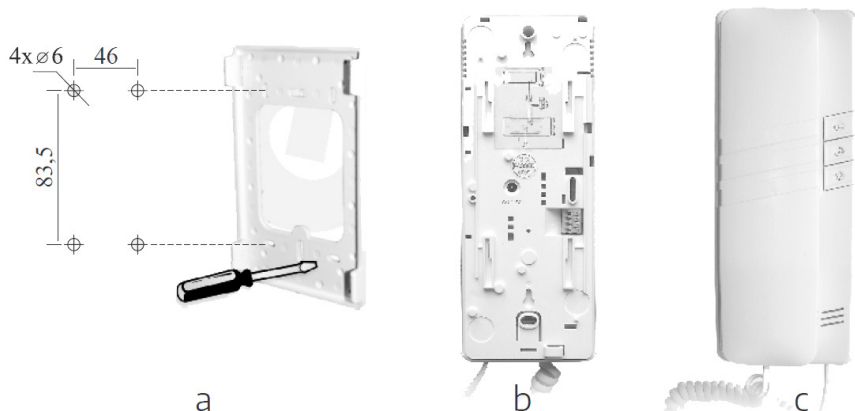

fig. 8.
1. With 2 holes in the Mounting Bracket, uncheck on the wall the places for mounting pins, then in the marked places, drill 2x mounting holes and place there 2 fixing pins - use 2 mounting screws to fix the Mounting Bracket on the mounting box (fig. 8, item a), in a way that provides easy and aesthetic connection for the power cord and connection wires.